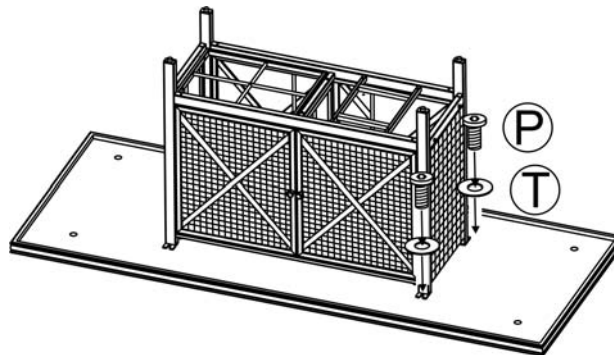

Figure 3
3. Place the tabletop onto the assembled firepit base. Secure the tabletop to the firepit base by using four 1/4"x20mm bolts and Ø20xØ6.5x2.0mm washers as shown in Figure 3. **Hand tighten only.**